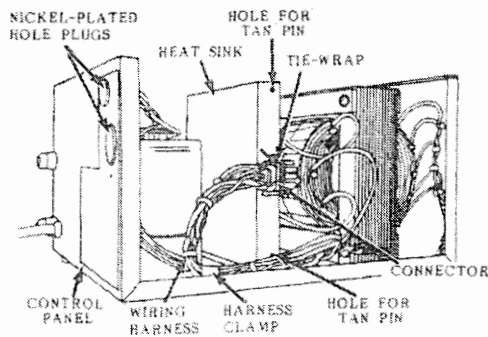

FIGURE 10
02.18 The harness is secured to the bottom of the chassis with a cable clamp as shown in Figure 10. Loosen the screw and nut slightly to allow movement of the harness.
02.24 Align the two tan-colored PBBU pins with the two holes in the heat sink (Figure 10). Press the pins into the holes until they catch and hold the PBBU PCB.